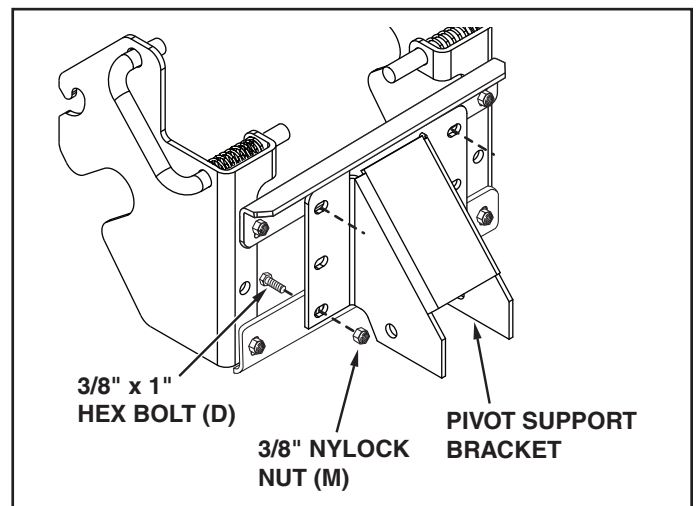

FIGURE 12
STEP 2: (SEE FIGURE 12)
- Assemble the pivot support bracket to the slotted angle support brackets using four 3/8" x 1" hex bolts (D) and four 3/8" nylock nuts (M). **Do not tighten yet.**